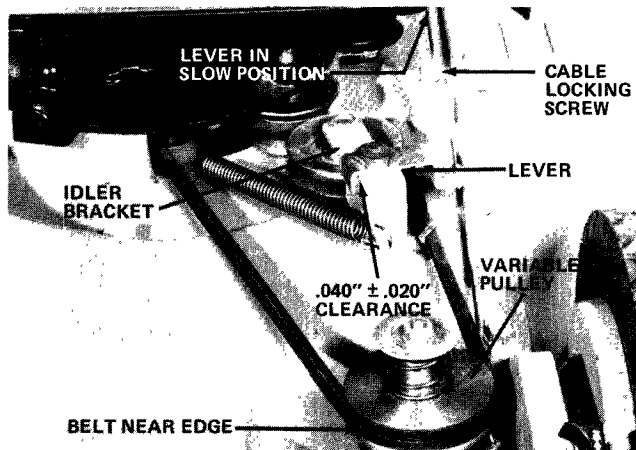

Figure 36
5. Rotate the idler bracket counter-clockwise and force the variable pulley halves together as shown in Figure 36, so the belt is riding out near the edge of the pulley.
6. Position the cable and inner wire to obtain a clearance of .040",  $\pm$  .020" between the idler bracket and the idler bracket lever as shown in Figure 36. Secure the cable in this position with the locking screw.